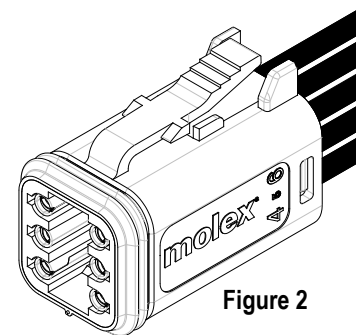

Figure 2
3. The connector without the Wedgeloek will look like Figure 2.